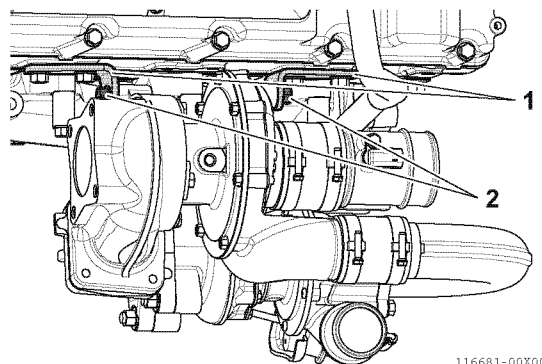

Fig.24-8
- 3 - Remove the turbocharger-side mounting bolts (2, Fig.24-8) from the two stays (1, Fig.24-8) which are fastening the low-pressure stage turbocharger and cylinder head.